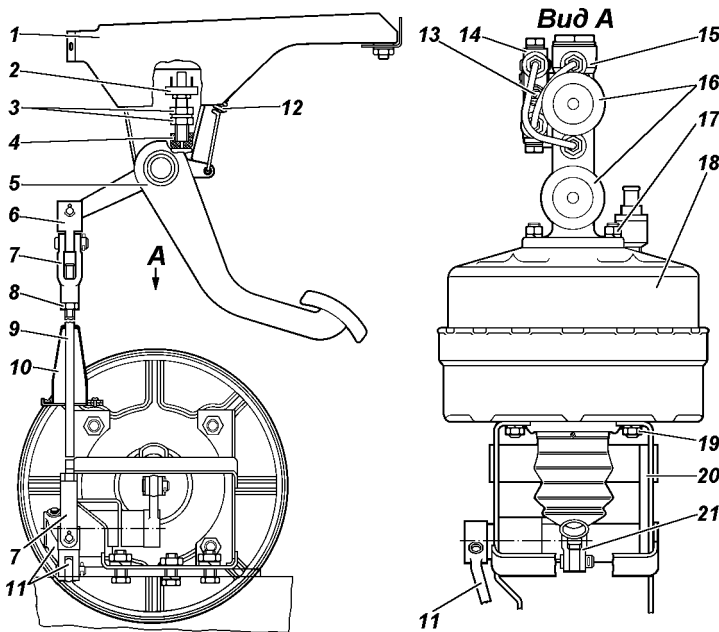

Fig. 60. Control linkage of brake master cylinder:
Periodically check the fluid level in the brake master cylinder reservoirs 16 (Fig. 60) and top up if required. The level should be 15-20 mm below the filling hole upper edges. Make sure of the hydraulic brake system tightness. Check the pipelines for condition and reliable attachment to the frame and rear axle.
**For adjusting the brake pedal free travel**, change the length of the vertical rod 9 (Fig. 60). The brake pedal full travel is 200 mm. The brake pedal full travel must be 5-14 mm.